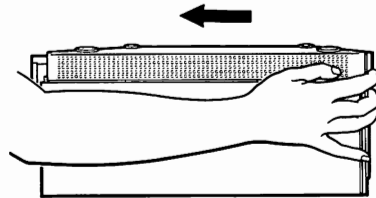

Figure 2-7. Slide bottom cover into place.
- Slide the cover toward the rear of the processor until it is in place. Be sure the edges of the cover fit over the processor frame. See Fig. 2-7.